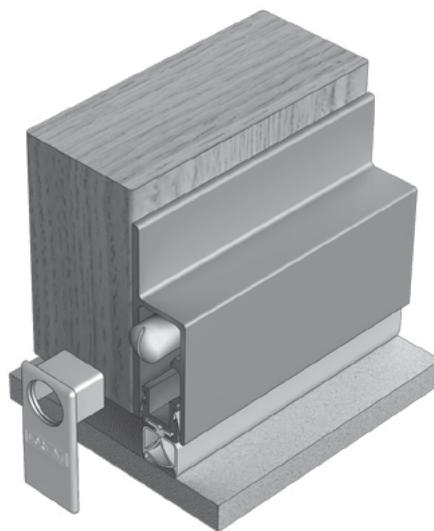

Figure 1: Face-fixed installation
Step 4 Fit the end cap to the actuator button end and position the seal to the bottom face of the door on the stop side, button end tight up to the door stop and allowing a maximum of 15mm between the door bottom and the sill. (See Figure 1) Ensure the actuator button is on the hinge side.